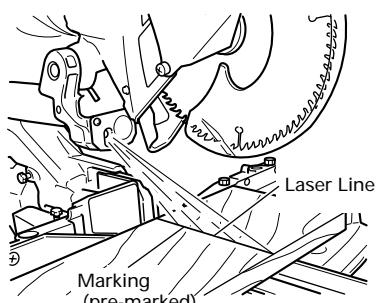

Fig. 21
**NOTE:** Check and make sure on a periodic basis if the position of the laser line is in order. As regards the checking method, draw a right-angle ink line on the workpiece with the height of about  $25/32"$  (20mm) and the width of  $5-29/32"(150mm)$ , and check that the laser line is in line with the ink line [The deviation between the ink line and the laser line should be less than the ink line width (0.5mm)]. (Fig. 21)